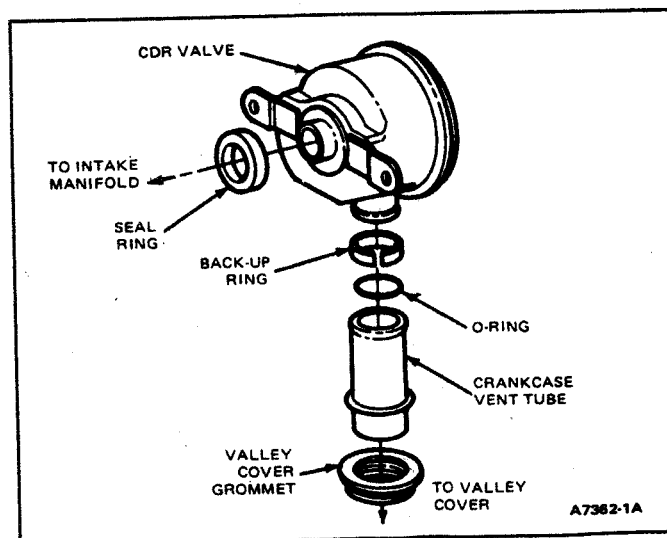

FIG. 45 CDR Installation
1. Install new seal ring, backup ring and O-rings on CDR valve and install valve in crankcase vent tube (Fig. 45).